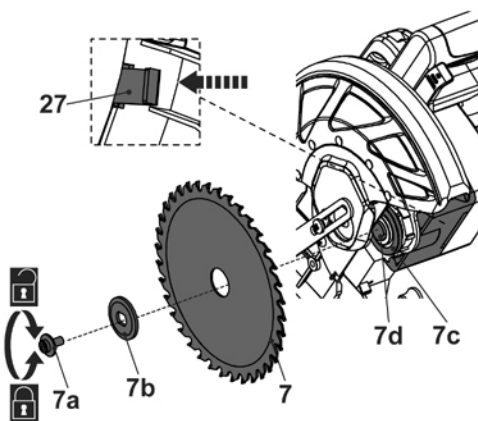

Fig. 11
- > Press the spindle lock button (27) fully and hold it in position (Fig. 11).
- > Turn the clamping screw (7a) slightly with the provided tool (28) until the spindle is locked.
- > Loosen the clamping screw (7a) in clockwise direction and remove it together with the outer flange (7b) and saw blade (7). Do not remove the inner flange (7c) from the spindle (7d).